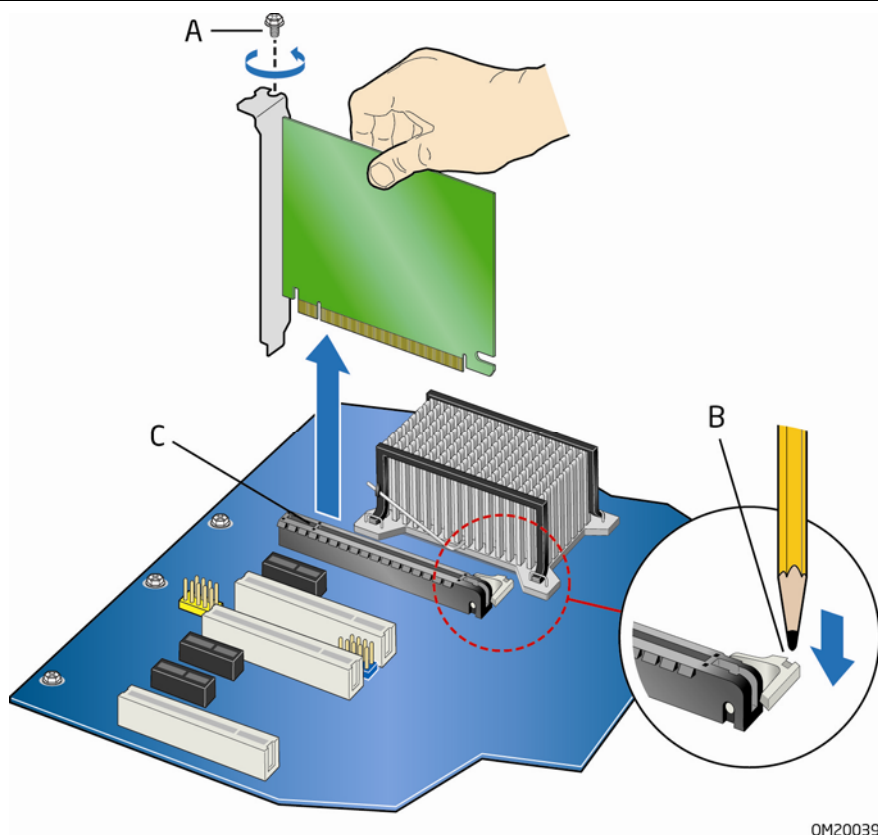

Figure 19. Removing a PCI Express x16 Card
2. Remove the screw (Figure 19, A) that secures the card's metal bracket to the chassis back panel.
3. Push the card ejector lever down using the tip of a pencil or similar tool (Figure 19, B) in the notch. This will release the card from the connector (C).